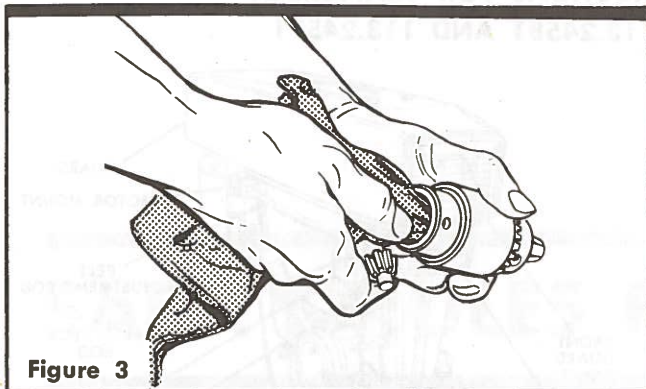

Figure 3
5. Clean the spindle taper and tapered socket in chuck body with a clean cloth (See figure 3). Make sure no foreign particle are left on these tapered surfaces which would prevent proper seating of the parts.
1. Clean the spindle taper and tapered socket in chuck body with a clean cloth (See figure 3). Make sure no foreign particles are left on these tapered surfaces which would prevent proper seating of the parts.